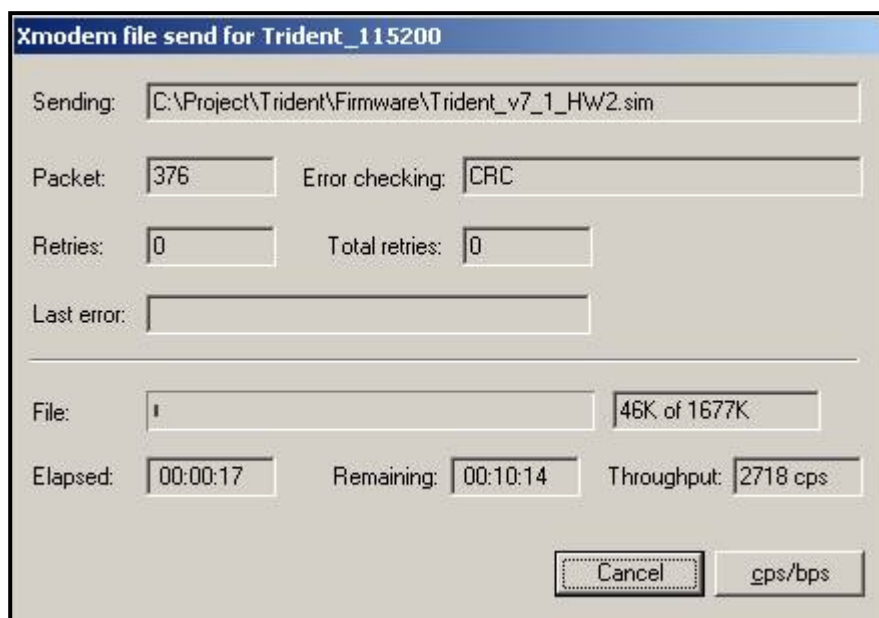
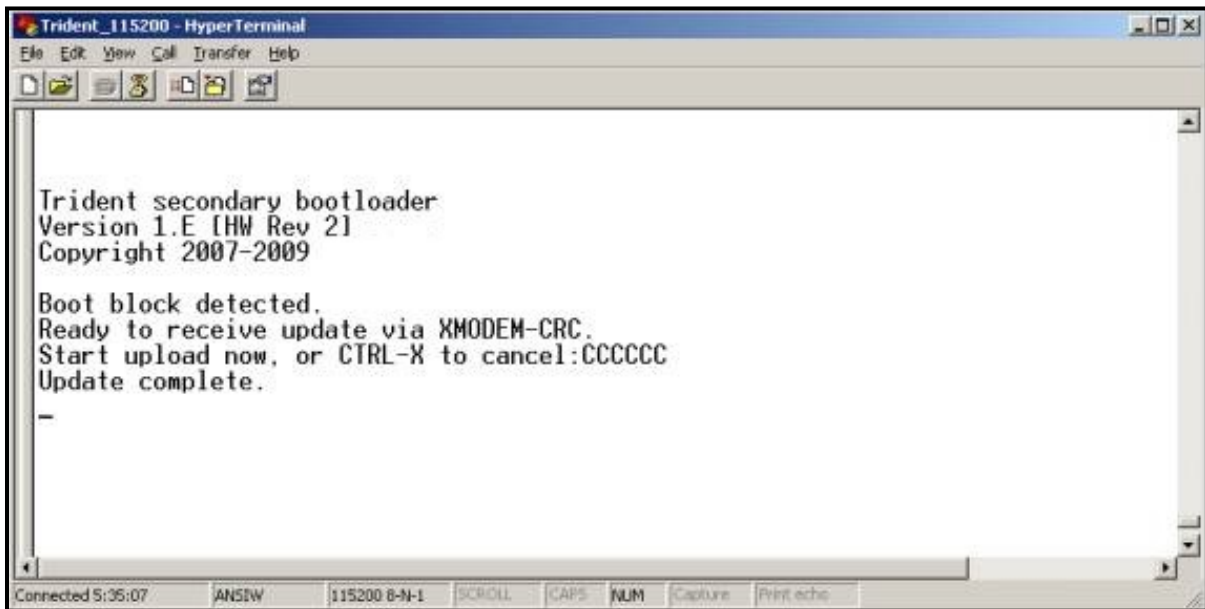

Figure 225: Sentinel LCT Transfer Status Window
Figure 226: PC Transfer Status Window
4. In Hyperterminal, select *Transfer*, and then *Send File*. (The protocol should be Xmodem.) Use *Browse* to locate the file, which will have a .sim extension. Double click on this file and click the *Send* button. The screens on the **Sentinel LCT** (Figure 225) and on Hyperterminal (Figure 226) should both display the status of the transfer.